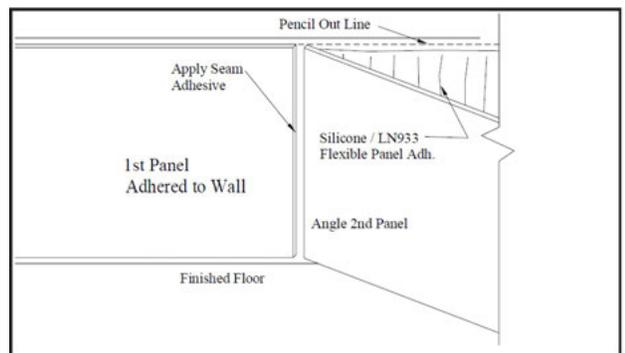

Figure 30B
- Apply sufficient seam adhesive along edge of panel, lap joint and/or batten to provide 100% coverage and adhesive squeeze out along entire seam. (Figure 30B)
- Place second panel on shims and angle panel to allow only areas to be seamed to come into contact. (Figure 30B)